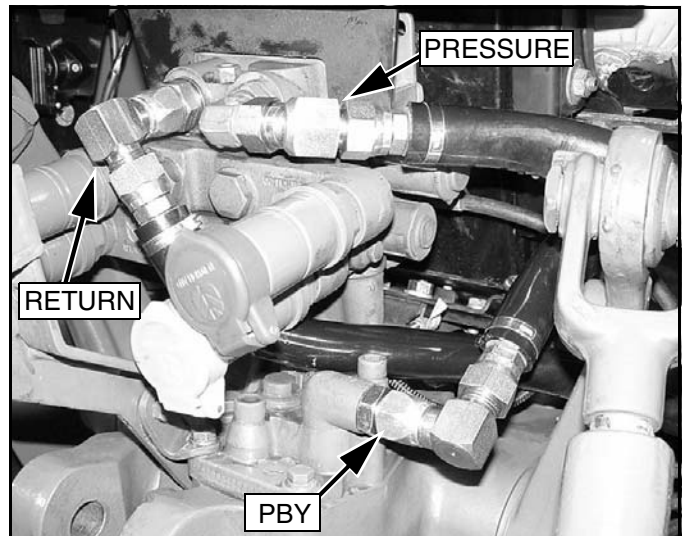

Figure 19. Hydraulic Fittings and Hoses Installed
3. Install adapter (3) and elbow (5) to the RETURN port.
4. Install elbow (6) to the PRESSURE port.
5. Install adapter (4) and elbow (5) to the PBY port.
6. Attach hose from the IN port on the control valve to elbow (6) in the PRESSURE port on the tractor.
7. Attach hose from the PBY port on the control valve to elbow (5) in the PBY port on the tractor.
8. Attach the hose from the OUT port on the control valve to elbow (5) in the RETURN port on the tractor.
9. Position the hoses as shown in Figure 19.
5. Secure hoses into position using lock pin (11).
6. Route RETURN hose as shown in Figure 19 to avoid upper 3-point arms.